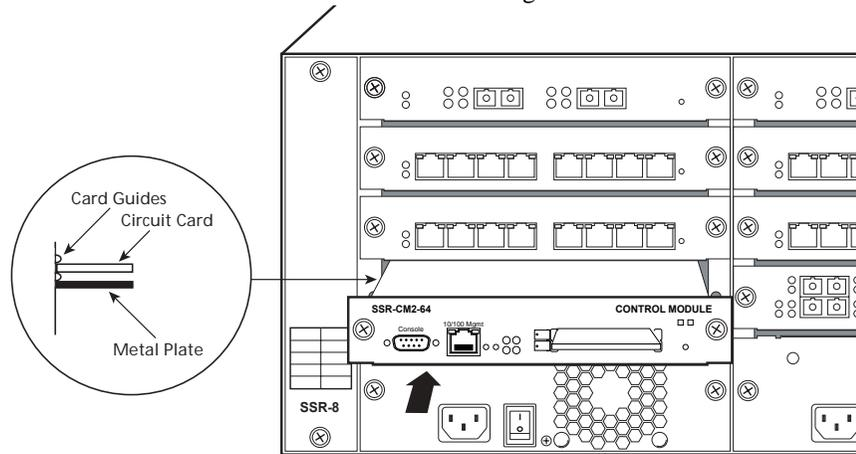

Figure 32. Insert card between card guides
6. **Align the backsheet of the Control Module between the card guides** as shown in Figure 32.